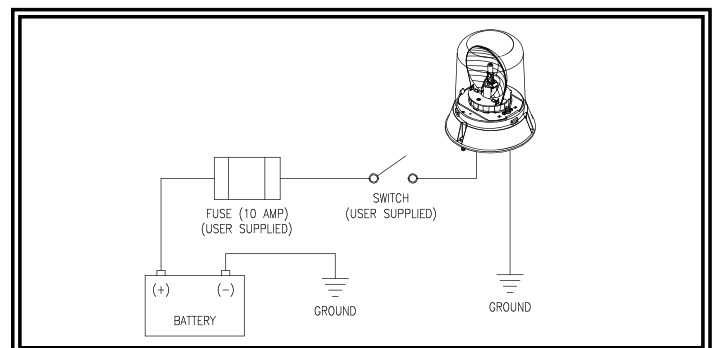

Figure 2
2. Remove the three (3) mounting bolts from the base.
6. Wire the beacon as shown in Figure 2. Apply sealant around the wires where they pass through the mounting surface to prevent leakage.